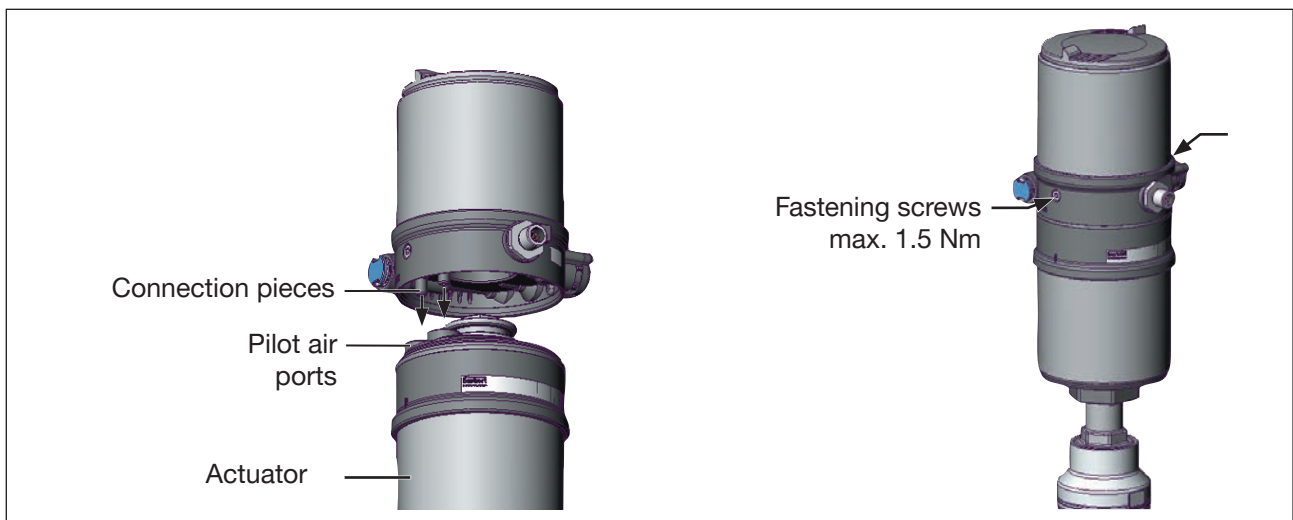

Figure 22: Installation of positioner, series 2103, 2300 and 2301
2. the connection pieces of the positioner can be inserted into the pilot air ports of the actuator (see also “Figure 22”).